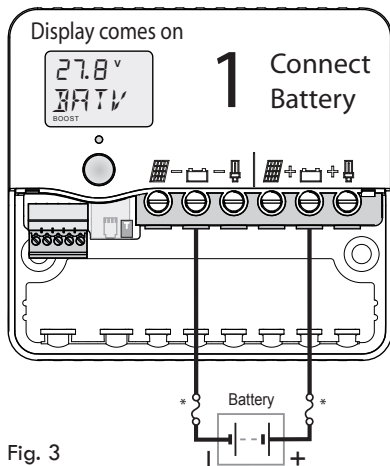

Fig. 3
- a. Connect the battery first. Positive to Battery +, Negative to Battery -. If the display comes on, the connection is correct. (see figure 3)